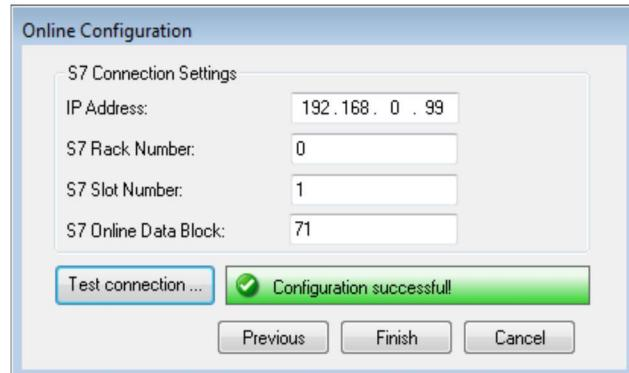

Figure 3-48 “Online Configuration” SAFECONF window
- Test the connection via the "Online Configuration" SAFECONF window (see Figure 3-48).